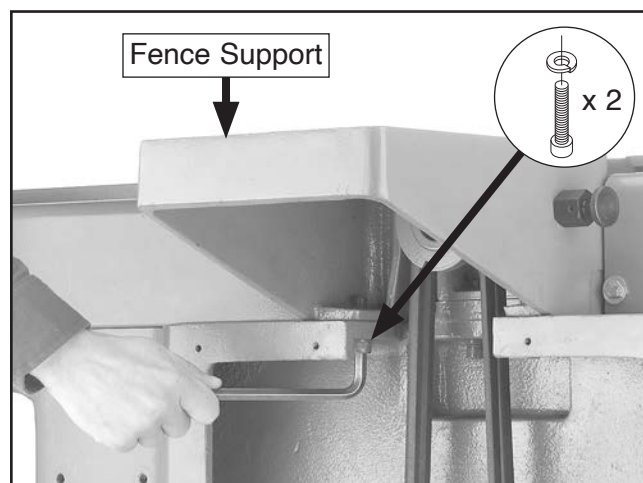

Figure 2. Installing fence support.
2. With assistance, secure fence support to jointer with (2) M12-1.75 x 30 cap screws and (2) 12mm lock washers (see **Figure 2**).